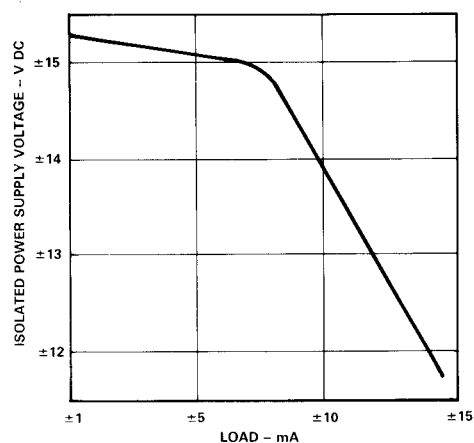

Figure 11. Isolated Power Supply Voltage (V DC) vs. Load (mA)
**Isolated Power.** The load characteristics of the AD203SN's isolated power supplies (i.e., +15 V dc and -15 V dc) are plotted in Figure 11.